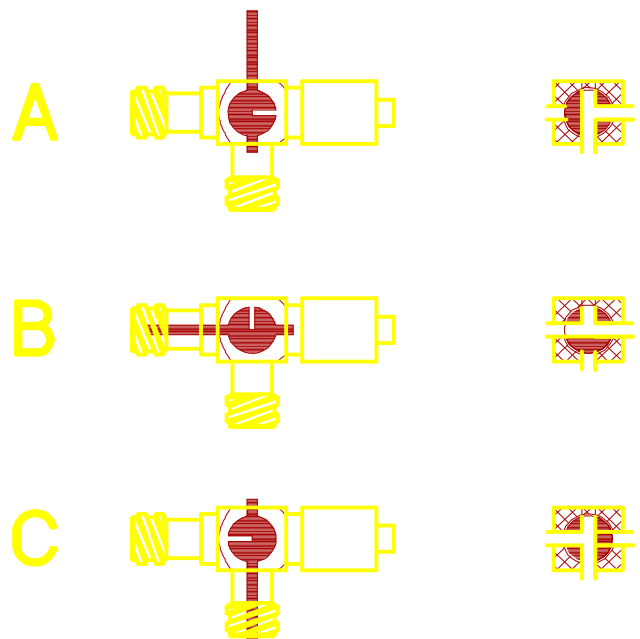

Fig. 6: Plug positions of the 3-way stopcock and the bores in the stopcock plug
Important for an exact reproduction of "**fast**" pressure signals is not only the correct choice of the connecting parts (see above) but also that the entire transmission system is fitted free from air bubbles. A critical point is the invisible "**dead**" bore inside the stopcock plugs (see Fig. 6). Even with optimum choice of catheter, a minute air bubble which may e.g. be hidden and invisible in the plug of the 3-way cock, can make it impossible to evaluate steep pressure rises. The pressure trace is generally rounded and sudden pressure changes produce oscillations in the pressure trace.
- Set the 3-way stopcock so that the catheter is filled with perfusate (Fig. 6 A) which escapes at the side arm of the 3-way stopcock.
- Set the 3-way stopcock so that the catheter is connected to the dome (Fig. 6 B).
- Place the filled syringe on the open side arm of the 3-way stopcock and set the stopcock so that the syringe is connected to the catheter (Fig. 6 A).
- Turn the 3-way stopcock so that the dome can be filled with the syringe (Fig. 6 C).
- Set the 3-way stopcock to the measurement position (Fig. 6 B).
Move the 3-way stopcock so that the dome is connected with the open branch of the 3-way stopcock (Fig. 6 C). This ensures pressure equilibration with the surrounding atmosphere. There is no load on the measurement diaphragm. Now check the pressure indication on your measuring instrument or recorder and readjust the appropriate control (null, zero, zero adjustment, bridge balance, etc.) if required. Note the information in the Operating Instructions for the instrument.
This completes the zero adjustment. Return the 3-way stopcock to its previous position (Fig. 6 B).